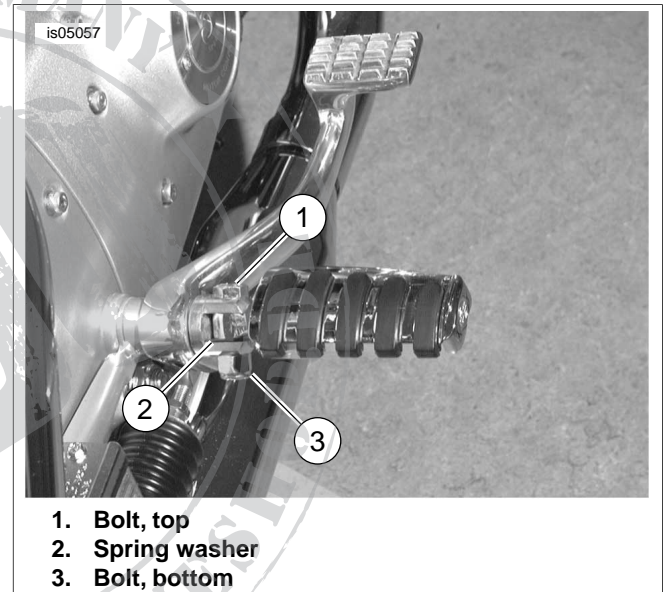

Figure 1. Footpeg Removal and Installation
1. See Figure 1. The footpeg shown in Figure 1 is different from the footpeg in the kit, however the installation is identical. Remove the locknuts and screws that hold the existing footpegs in place. Save all hardware for installation of the new footpegs.